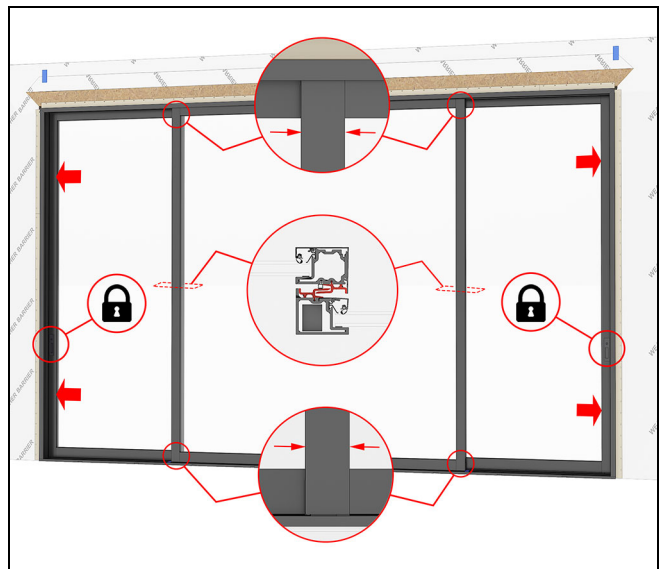

Figure 153 XOX shown
6. Close and lock the operator panels. The interlocks should engage and the stationary panel may move slightly. If the stationary panel did not move, firmly slide the stationary panel opposite the closing direction of the operator panel to fully engage the interlocks. See Figure 153.